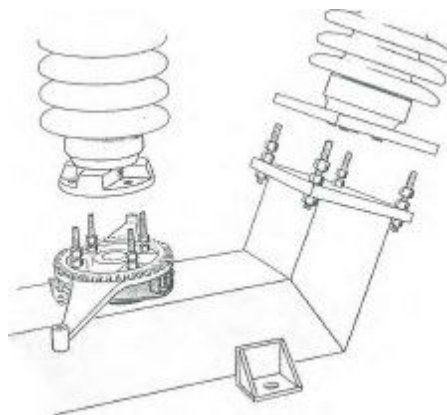

Figure 2: Insulator Mounting
- 1.3. Before disassembling the live parts from the switch base you must match mark the insulator bearing hub, switch arm, and rotating base to ensure correct reassembly (**See Figure 2**). Match-mark A to B and B to C. Failure to complete this step will make final adjustment more difficult.
- 1.5. Refer to the Unit Assembly and Field Assembly (SF) Drawings for bolt sizes. Mount the center stack rotating insulator first, using the bolts specified in the field assembly bolt list. The easiest way to mount the insulators on these switches is to remove the top nuts from the jack screws that support the mounting adaptors, remove the mounting adaptors from the base, and bolt them directly to the bottom of the insulator stack. Then the entire stack can be lifted to the base and slipped down on the jack screw studs. (see **Figure 2**).